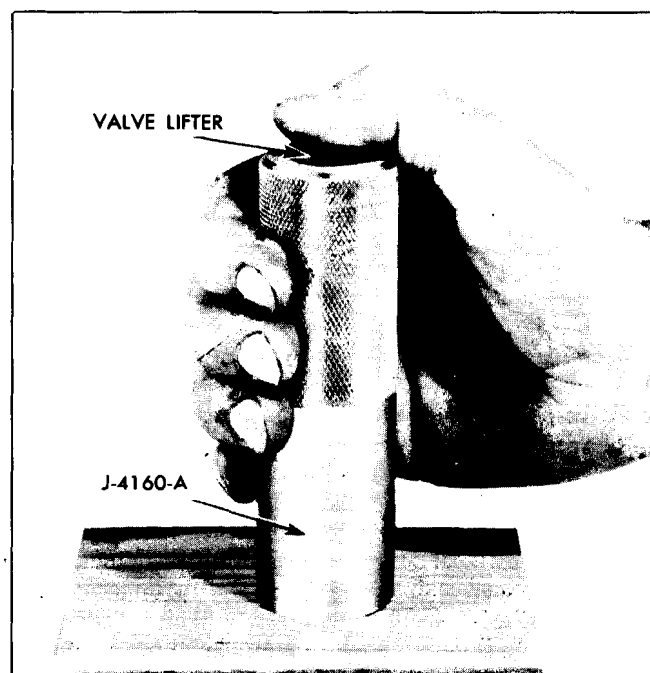

Fig. 6-108 Removing Stuck Plunger
2. Invert lifter and allow push rod seat and plunger to slide out of body. If plunger sticks in body, place lifter in large end of hydraulic valve lifter plunger remover J 4160-A, with push rod end of lifter downward. Hold tool firmly in hand with thumb over lifter body and sharply strike the tool against a block of wood until plunger falls out (Fig. 6-108). (It may be necessary to soak a lifter having a stuck plunger in cleaning solvent for several minutes in order to remove the plunger).